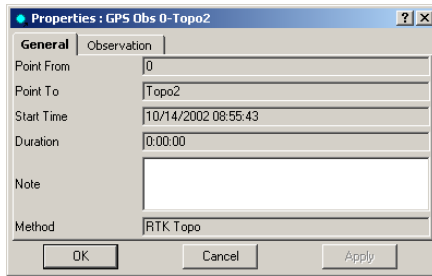

Figure 4-88. Observation Properties – General Tab
3. On the **Properties** dialog box, click the *General* tab (Figure 4-88 on page 4-66).